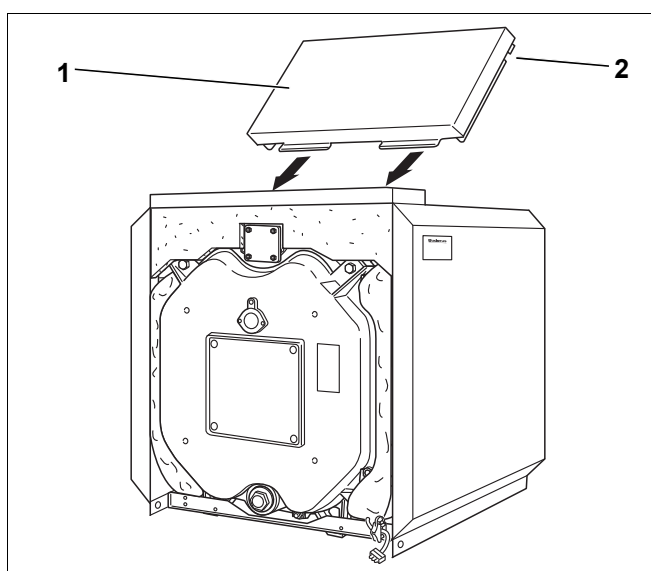

Fig. 37 Installation of the rear hood
- Position the rear hood (Fig. 37, [1]) between the side walls, so that the cut-out engages (Fig. 37, [2]) above the cross support bracket.